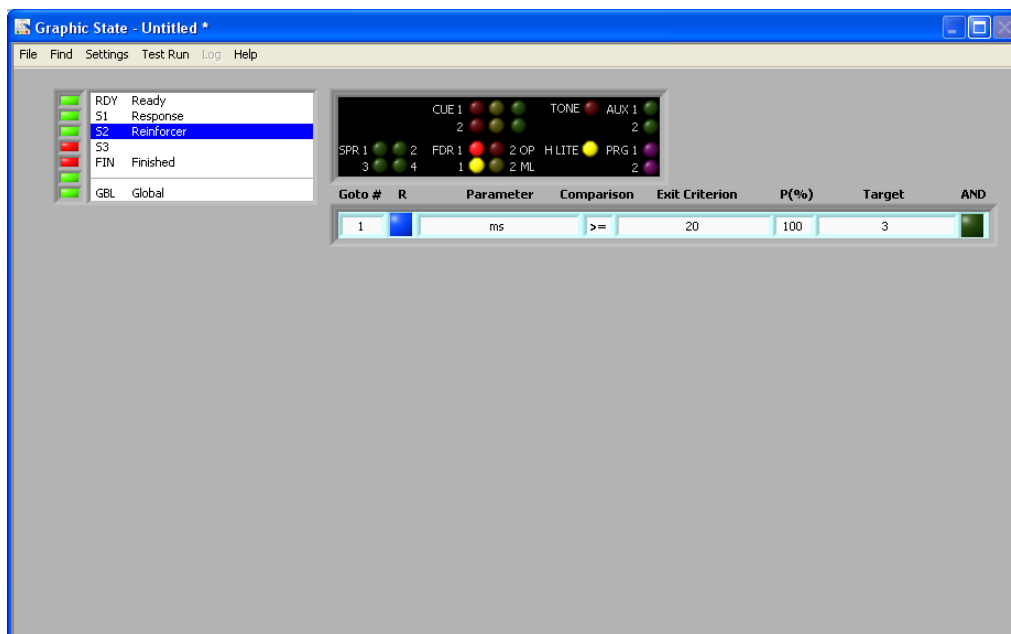

FIGURE 7
To configure the reward, click on S2 in the State List Box to view State 2. Set its description to “Reinforcer” by right-clicking on S2. Click on the HLITE in the stimulus area to activate the house light. Also click on the red and yellow “FDR1” (Feeder 1) stimuli to activate the pellet feeder. Both stimuli are required in order activate the magazine lamp (ML) in the pellet trough (OP). Enter the exit condition parameters as indicated in Figure 7: